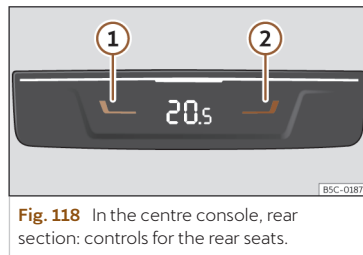

Fig. 118 In the centre console, rear section: controls for the rear seats.
- Press buttons ① and ② >>> **Fig. 118** to adjust the temperature of the rear zone.